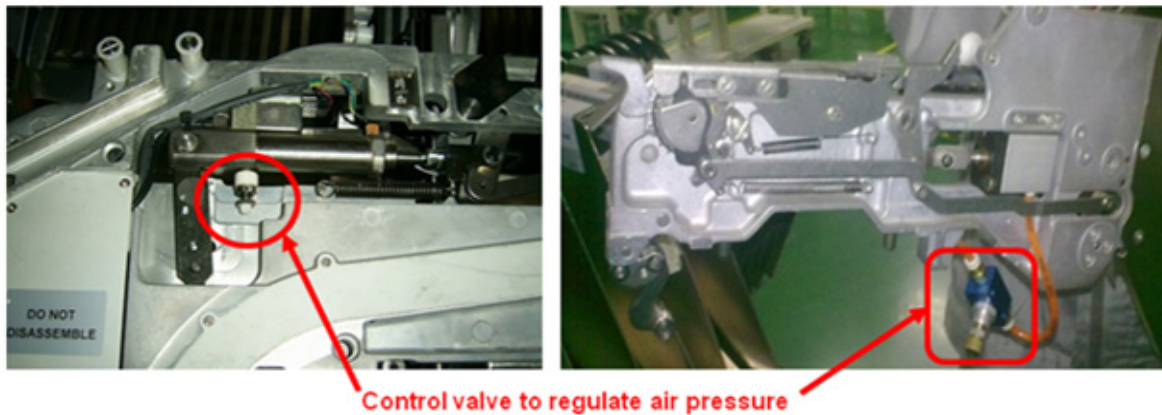

Figure 20. Pneumatic feeder with integrated air pressure control valve (left) and pneumatic feeder with air pressure control valve installed afterwards (right).
- a. *Install an air pressure control valve.* In some pneumatic feeder designs, said control valve is already integrated by the machine supplier; in others, an external control valve may have to be installed (see Figure 20).